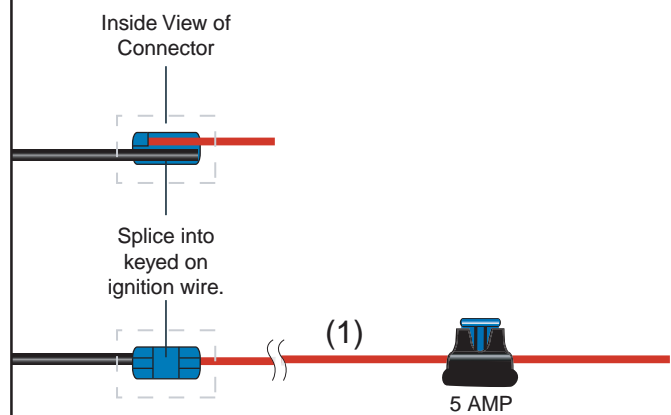

Figure 8
4. Splice the red wire with the 5 AMP fuse that is connected to the back of the relay to a keyed on ignition wire (Figure 8).